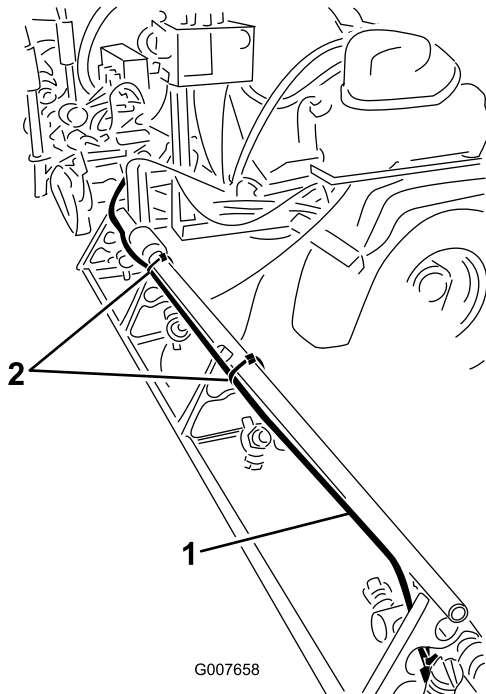

Figure 7
- A. On the right boom, install the foam hose along the rear side of the upper support pole (Figure 7).